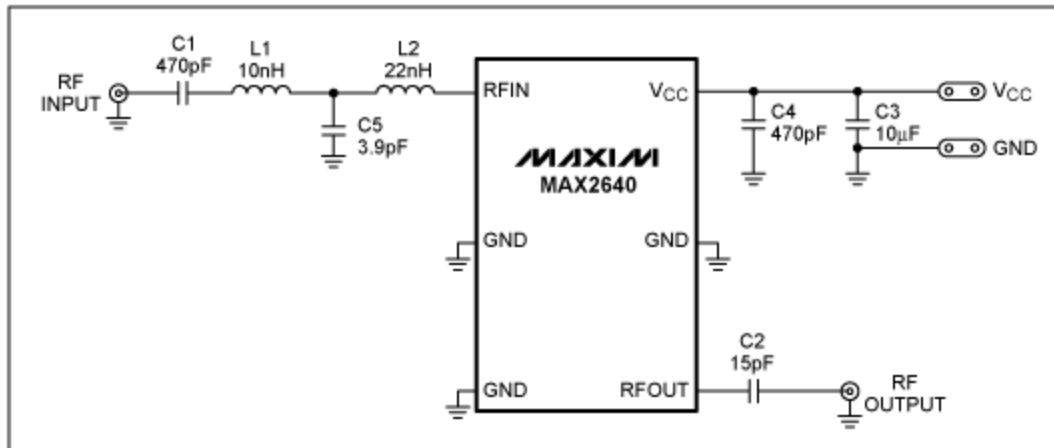

Figure 1. Presents a circuit for tuning the MAX2640 for a 470MHz to 770MHz ISDB-T application.
**Figure 1** illustrates the final circuit, while **Table 1** provides the component list.